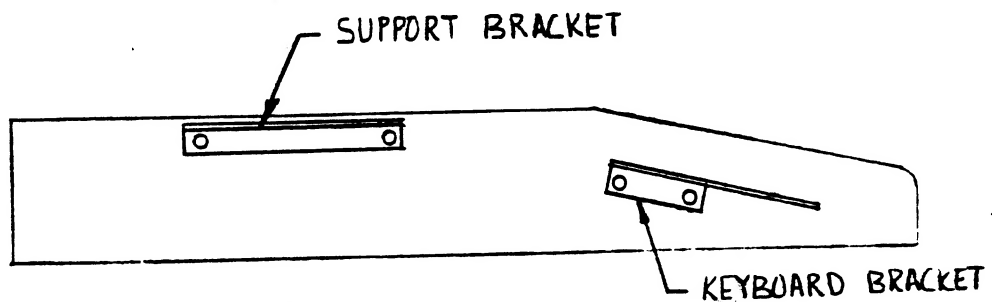

FIGURE 1
- Step 1 - Install two of the support brackets as shown in figure 1 and 3 using #6-32 nuts and lockwashers. Install also the Right and Left Keyboard brackets as shown in figure 1 and 3 using #6-32 nuts and lockwashers.